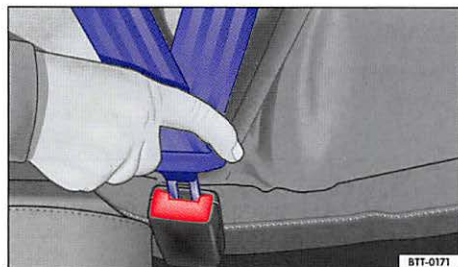

Fig. 51 Inserting the safety belt buckle tongue into the belt buckle.
- Insert the tongue into the correct buckle for your seat until you hear it latch securely ⇒ fig. 51.